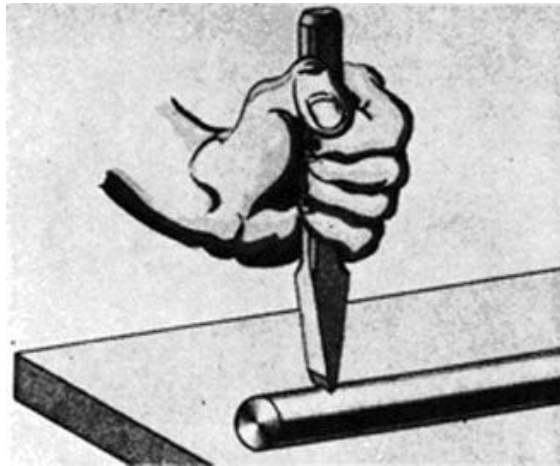

Figure 7.3.55. Cutting round stock with cold chisel
3. Hold the chisel (**Fig. 7.3.55**) with the cutting edge on the mark and the body of the chisel in a vertical position.